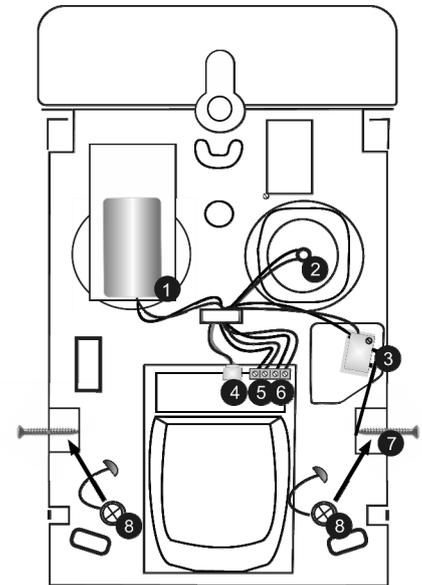

Figure 1: Wireless Sounder (cover off)
2. Make certain that tamper and sounder wires are connected as shown on Figure 1.
4. Insert the battery as per Figure 1.
4. Replace the front cover and secure it using supplied cover screws as the arrows show on Figure 1. Close the screw caps.
5. Make certain that the right cover screw is secured tightly so that it closes the tamper switch – see Figure 1.